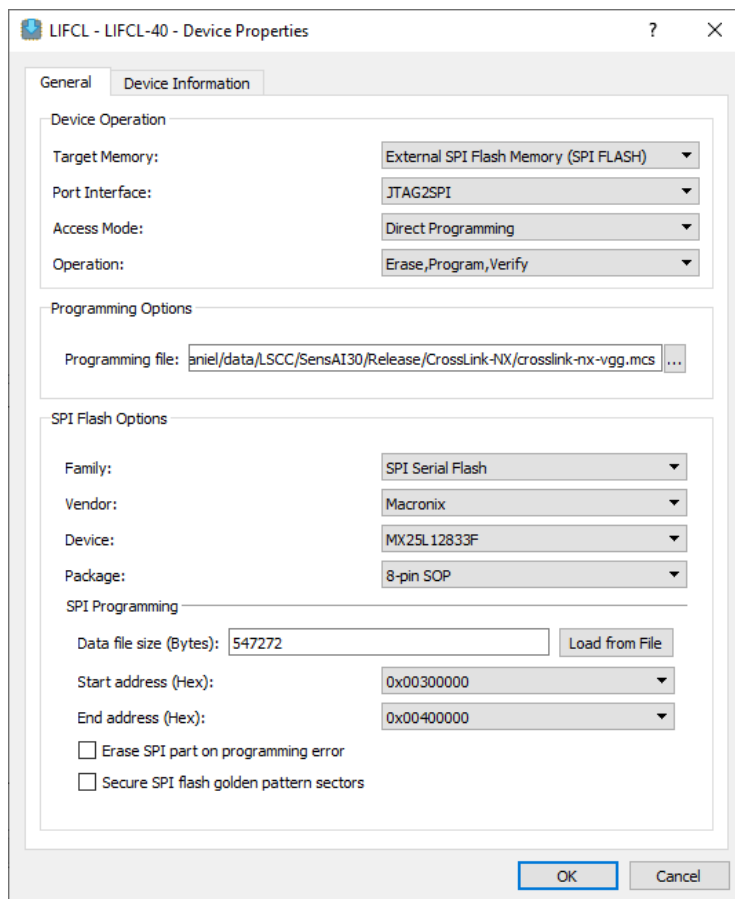

Figure 4.8. Radiant Programmer – Selecting Device Properties Options for CrossLink-NX Flashing
2. For SPI Flash Options, follow the configurations in Figure 4.8.